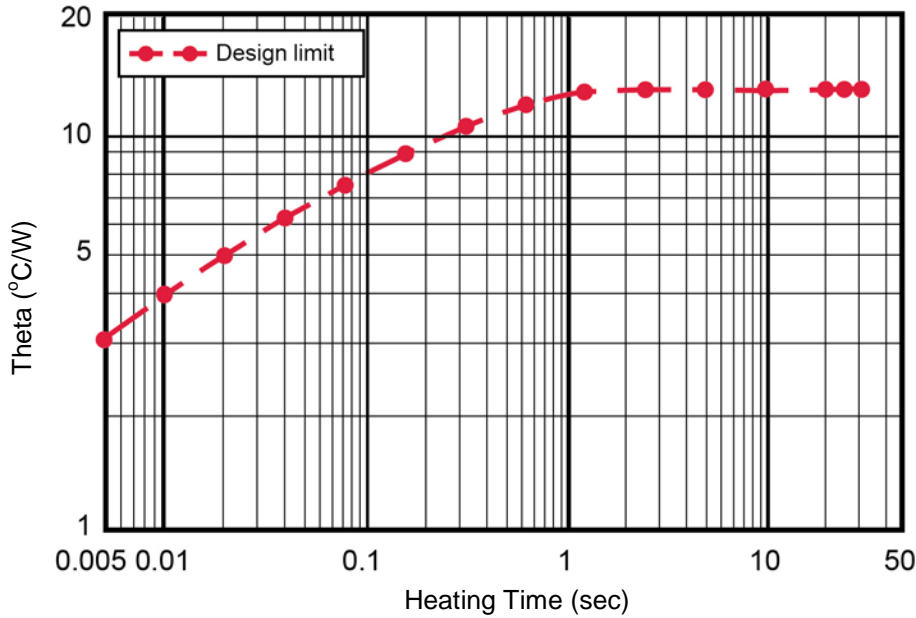

FIGURE 1
3. For the complete thermal impedance curve over a broad range of heating times, see Figure 1.